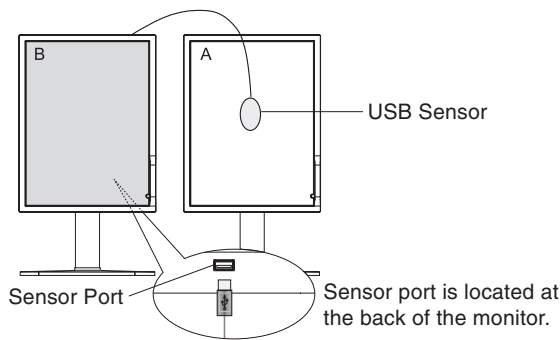
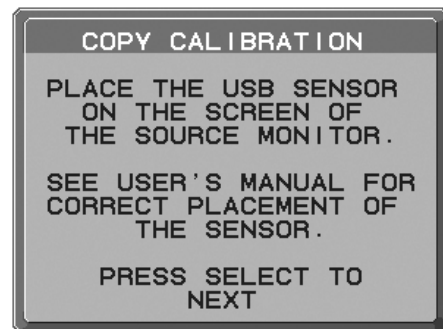

Figure 7
Figure 10
- To show the CALIBRATION menu, plug-in the USB sensor to the sensor port (**Figure 7**) or select the CALIBRATION in the advanced menu (page 20).
- The procedure will ask for the USB sensor to be placed on the center of the Display A panel (**Figure 10**). Tilt the display panel approximately 5° backward and place the USB sensor in the center of the display panel (**Figure 7**).